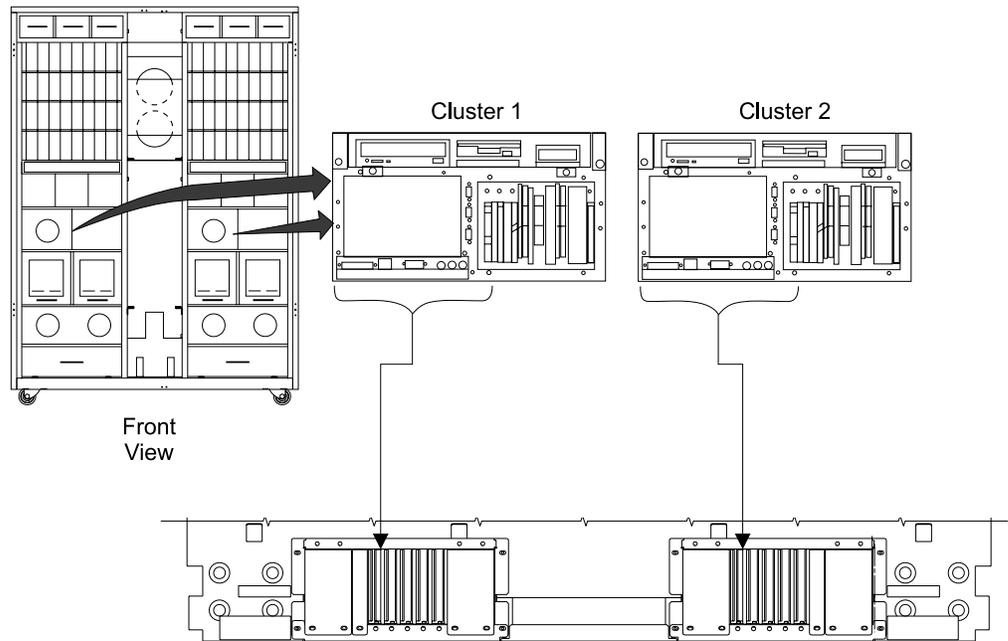

Figure 306. Cluster Bay Communication Cable Tailgate Clamps (S008254n)
- Cluster Bay communication cable tailgate information, see Figure 306 on page 311